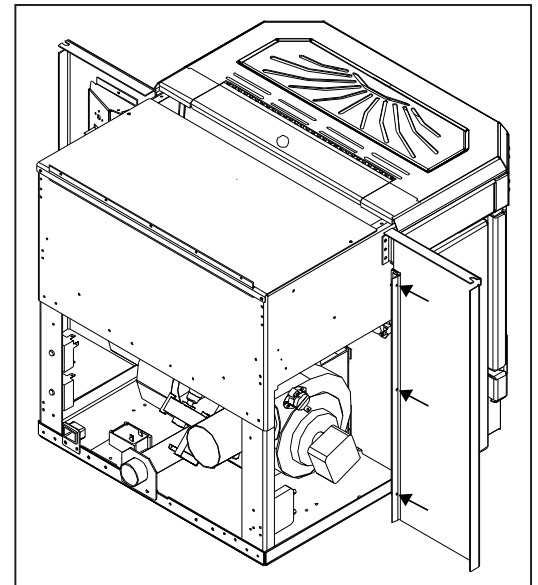

Figure 37: Panel placed on unit.
3. Using three (3) T-20 screws on each side attach the hinges on the side surround panels to the unit's side panels (refer to Figure 37).